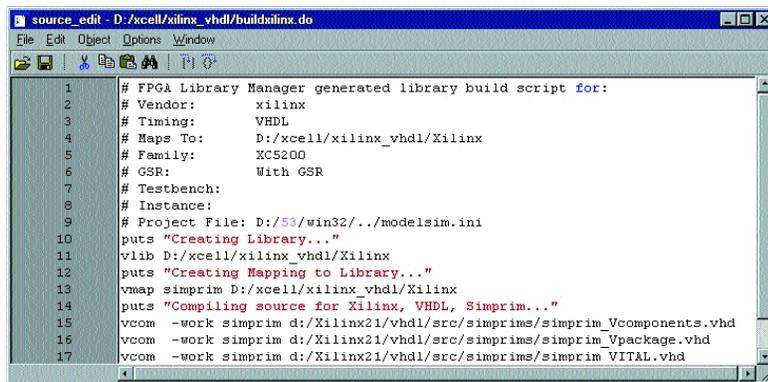
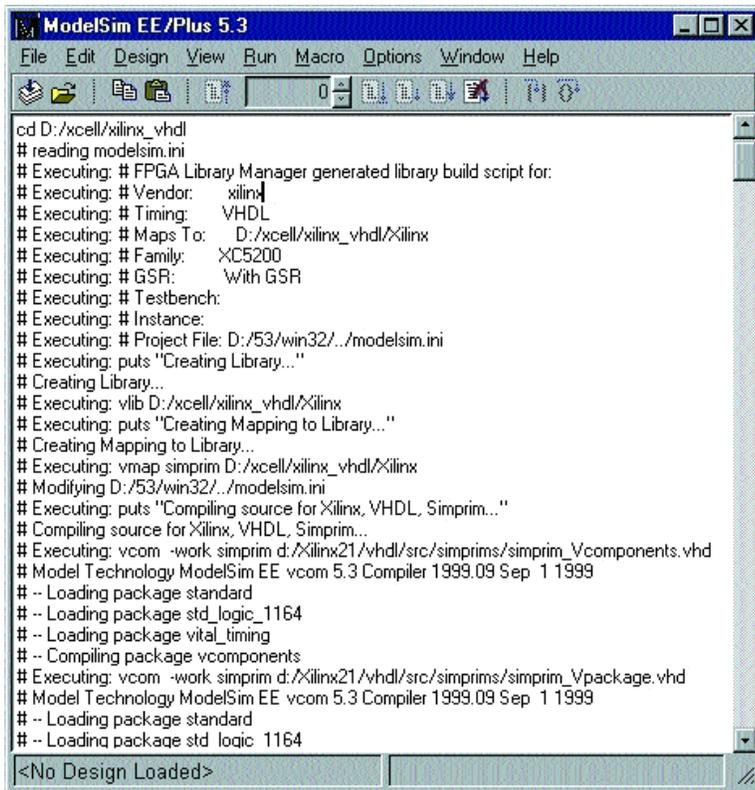

Figure 2: ModelSim Xilinx FPGA library script.
Figure 3: Main ModelSim window.
- Select **Write Build Script**; the default path name is the current directory. (ModelSim is a full featured simulation tool that can be run in UI mode, command line mode, or batch mode. The ModelSim FPGA Library Manager can create a script that can be used to re-compile the FPGA library.) The TCL script can be seen in Figure 2: the vlib command creates a ModelSim library, vcom is the VHDL compiler, and
- Select **Build Library**. The Main Window scrolls messages indicating the library has been built as shown in Figure 3. When the library compilation is complete an information window will appear. Dismiss the library compiled information window, and Exit the FPGA Library Manager. The ModelSim build script is shown in Figure 2.